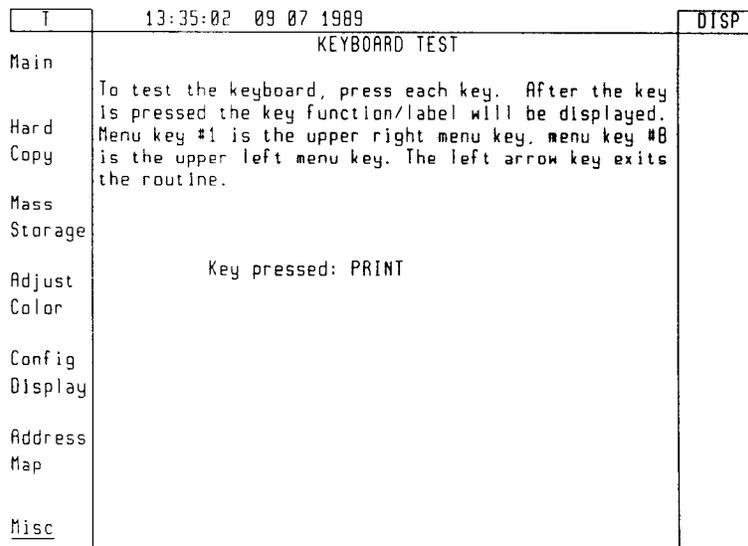

Figure 5-7. Key Test
3. Press any key on the display's front panel. The pressed key will be *echoed* on the screen if the key is working properly. See Figure 5-7.